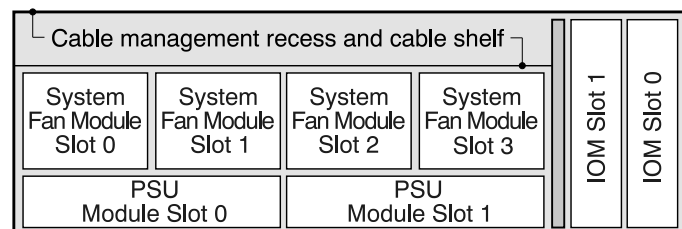
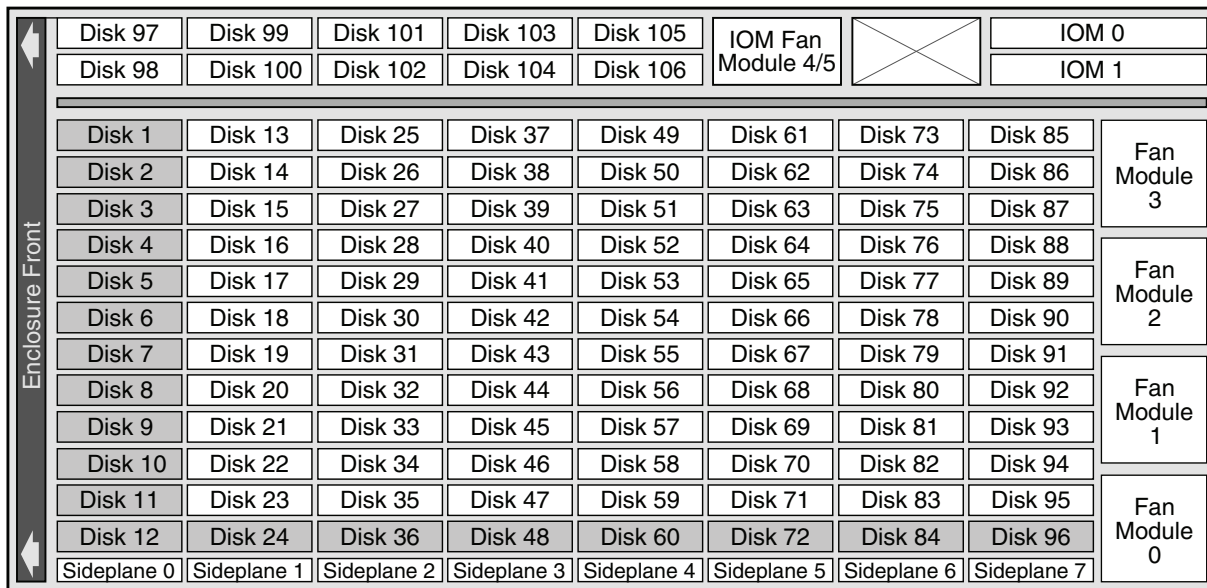

Figure 5. Model 106 enclosure – rear panel module slot index diagram
Figure 11. Model 106 enclosure – top panel module – slot index diagram
See Figure 5 for a conceptual diagram showing module slot-indexing as viewed from the rear panel.
Figure 11 on page 14 provides a conceptual diagram of module slot-index numbering as viewed from the top of a Model 106 enclosure with all covers removed. To view, the arrangement of PSU module slots-beneath the system fan slots-see Figure 5 on page 10.
The Model 106 is designed for use with a full load of disks; however, it may also be partially populated. In Figure 11, Gray-colored disk slots indicate minimum disk module placement for power and cooling reasons. These slots should be populated in all cases. The acronym DDIC (Disk Drive In Carrier) is used as a synonym for disk drive module.
The Model 106 does not ship with pre-installed disk drive modules. When installing disk drive modules, be mindful of the disk slot numbering index shown in Figure 11. The following rules apply when populating the Model 106 enclosure with disks possessing 12 watts maximum drive power per slot:
- Populate the minimum disk slot arrangement indicated by gray-colored disk slots in Figure 11.
Important: If the Model 106 enclosure is configured with a single expansion module, it must be installed in IOM slot No.0 (as shown in Figure 11 on page 14). An IOM blank must be installed in the adjacent slot (No.1). This configuration is required to ensure sufficient air flow through the enclosure during operation.